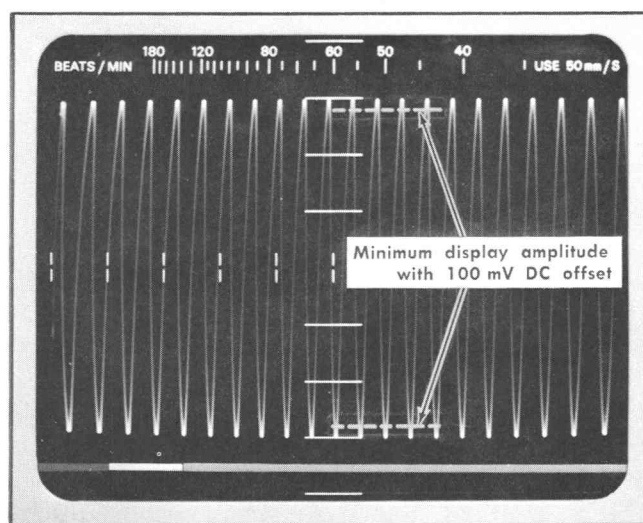

Fig. 6-12. Typical CRT display when checking gain with 100 mV DC offset.
- Set the standard amplitude calibrator for a zero-volt output and adjust the sine-wave generator for a 6-centimeter display at 10 hertz (see Fig. 6-12).
- CHECK— ≥ 5.7 centimeters of vertical display (see Fig. 6-12).